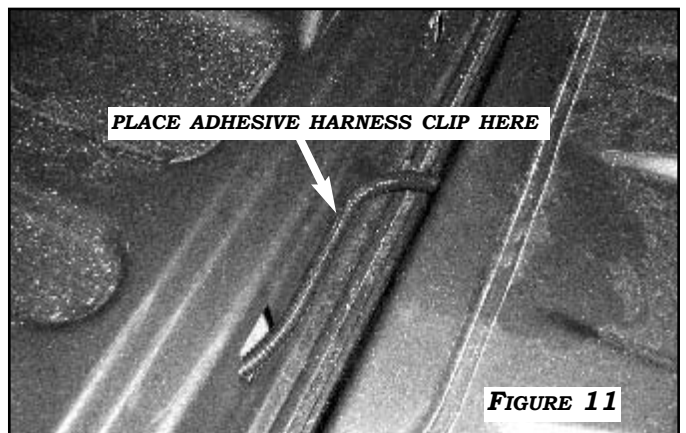

FIGURE 11
2. ROUTE THE TAILGATE INTERFACE HARNESS TO THE HOLE AT THE BOTTOM RIGHT SIDE OF THE TAILGATE. PULL THE CONNECTOR THROUGH, THEN INSERT ROUTE THE HARNESS UNDER THE BED THROUGH THE SECOND HOLE AS SHOWN IN **FIGURE 11**. CLEAN THE AREA WITH ALCOHOL THEN ATTACH THE SUPPLIED ADHESIVE HARNESS CLIP TO THE BOTTOM OF THE TAILGATE TO SECURE THE HARNESS AS SHOWN IN **FIGURE 11**.